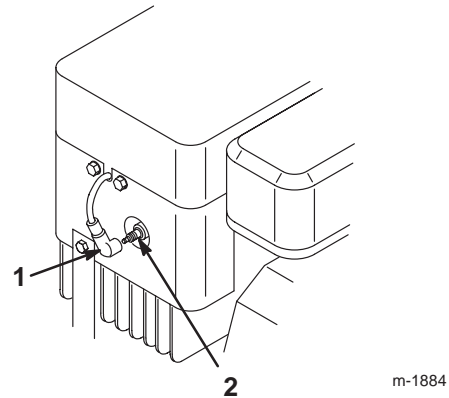

Figure 23
7. Disconnect the wire from the spark plug (Fig. 23).
3. Connect the wire to the spark plug (Fig. 23).